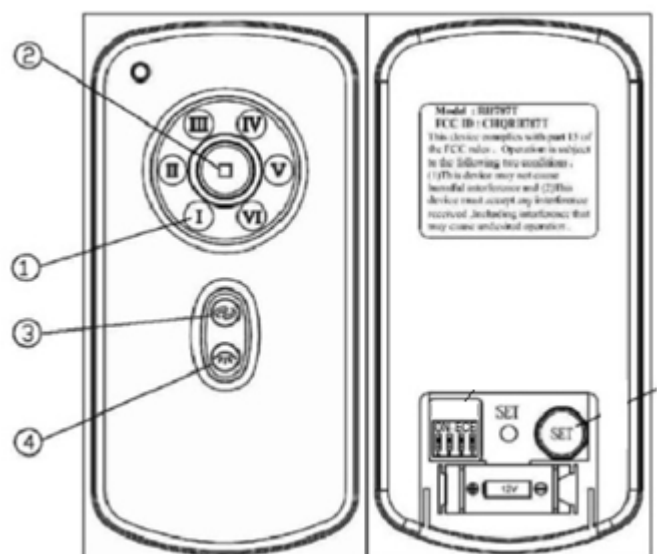

Fig. 11
- Insert the blade screws through blade assembly consist of the following order, bracket kit, blade, and fiber. Attach the blade assembly to motor and secure it by tightening the 2 screws. Fig. 11